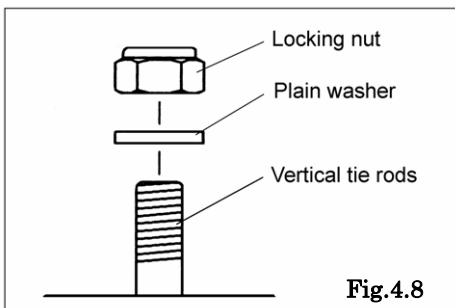

Fig.4.8
- Replace the locking nut with a new one regardless of its condition. [Fig.4.8]